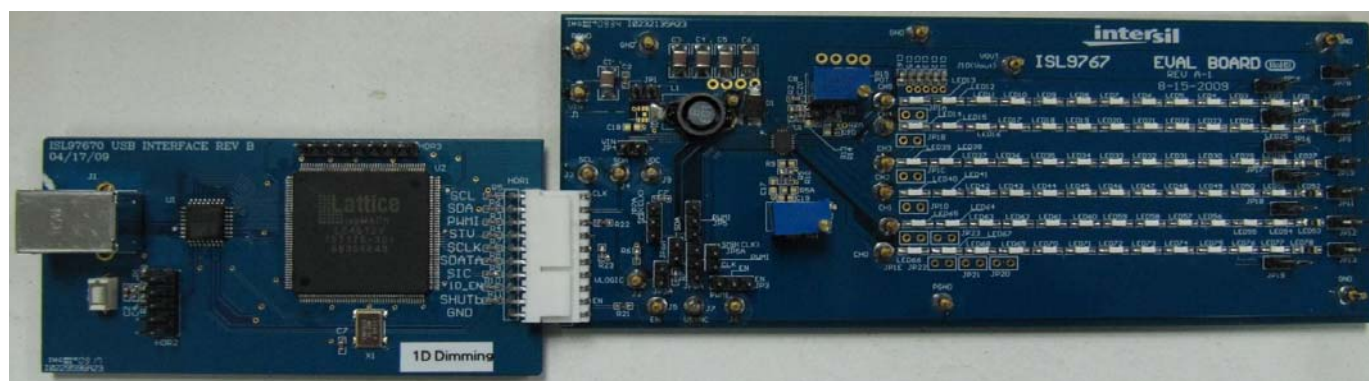

FIGURE 3. I2C INTERFACE BOARD CONNECTED TO ISL97673IRZ-EVAL EVALUATION BOARD
- Connect the I2C interface board to the ISL97673/4IRZ-EVAL Evaluation Board, as shown in Figure 3.